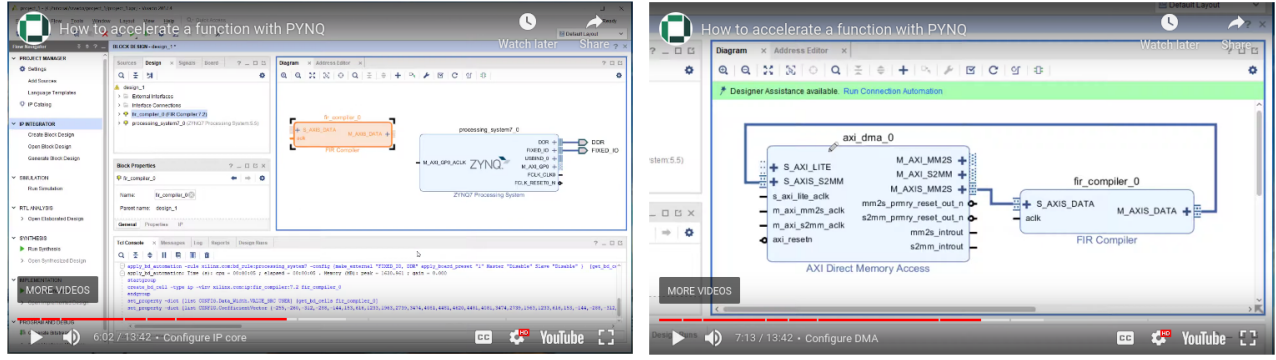

Figure 5: (Left) Adding the FIR filter block. (Right) Connections between DMA and FIR filter.
6. To finalize the FIR configuration, click OK. The block diagram should now resemble Fig. 5 (left).
Now connect the proper outputs and inputs between the DMA and the FIR filter, as shown in Fig. 5 (right). Double click the Zynq block, and enable a high-performance AXI port by clicking the green block (bottom right of the diagram).